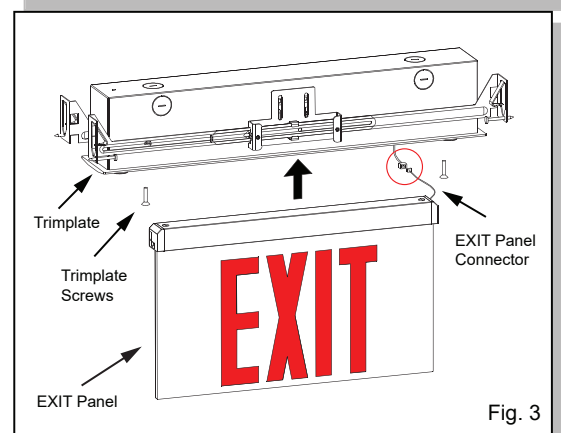

Fig. 3
**NOTE:** If using a single face EXIT sign, make sure to position the recessed kit such that when the EXIT panel assembly is installed, it will be in the correct orientation. This is determined by matching up the location of the EXIT panel connector within the trim plate assembly (see Fig. 2) and the location of the EXIT panel connector on the EXIT panel (see Fig. 3 & 4).
- Reposition the spring hanger into the recessed housing, then slide the trim plate assembly back into the recessed housing and secure with the (2) screws.
- Connect the EXIT panel assembly to the PCB, then secure by sliding into the EXIT panel slot in the trim plate (Fig. 3 & 4).